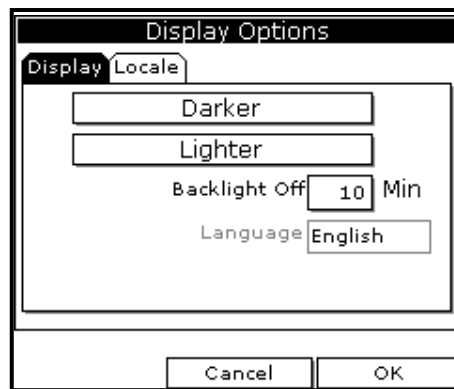

Figure 18: Display Options Window
3. Use the arrow key to scroll to Contrast and press **[ENTER]**. A screen similar to *Figure 18* appears.